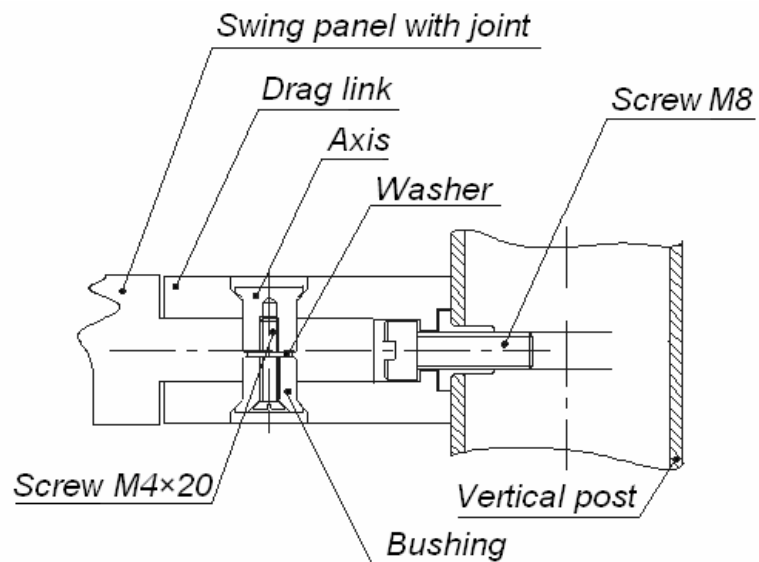

Fig. 14 Fastening of joints to the support post of rotary railing section
3. Fix two drag links on the support post with two $\text{M}8 \times 25$ screws as depicted on Fig. 14.
4. Fix two drag links on the support post with two M8×25 screws, as depicted on Fig. 14. Install the support post into working position. It is recommended to use 50×20×0,5...0,8 mm mounting pads in order to secure that posts were installed vertically.